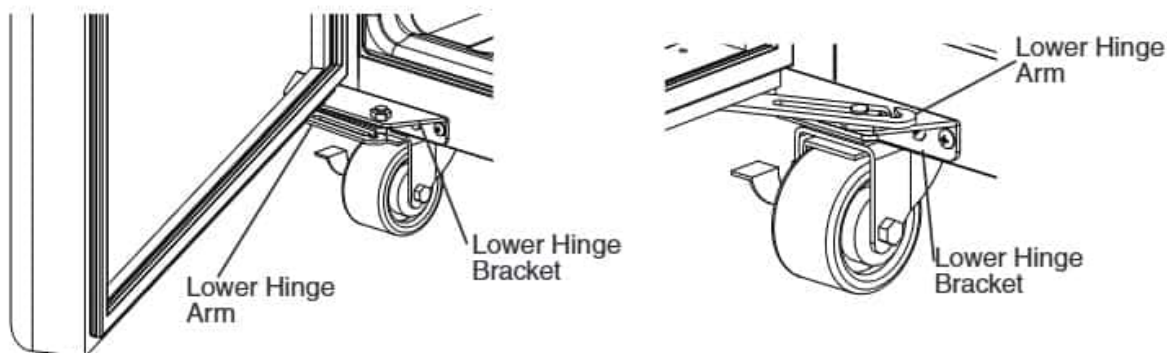

Fig. 49
- 18) Open the door and connect the lower hinge arm to the lower hinge bracket. See Fig. 49.